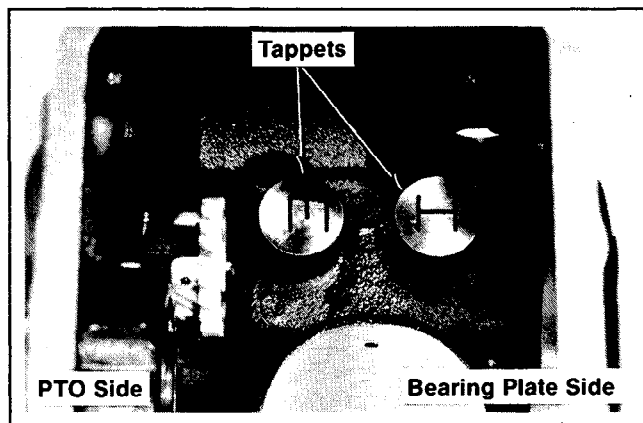

Figure 10-10. Removing Tappets.
3. Mark the tappets as being either intake or exhaust. Remove the tappets from the crankcase. Refer to Figure 10-10.